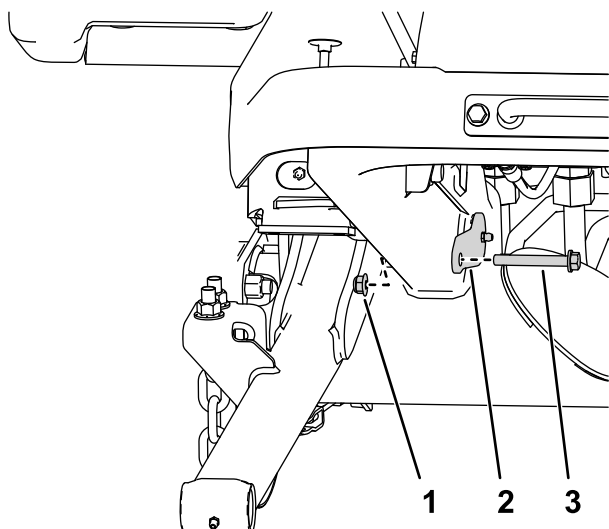

Figure 6
4. Use 2 nuts (3/8 inch) and 2 bolts (3/8 x 2-3/4 inches) to secure the large pins to the frame (Figure 6).